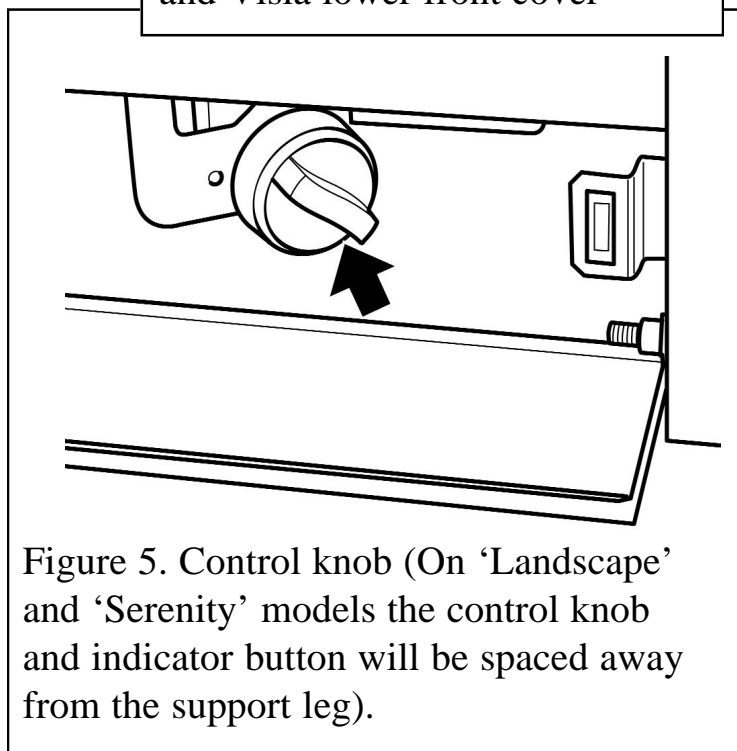

Figure 5. Control knob (On ‘Landscape’ and ‘Serenity’ models the control knob and indicator button will be spaced away from the support leg).
- Depress the control knob and turn anticlockwise towards the PILOT/IGN position (See figure 5). A spark should be generated at the pilot while turning. The spark should ignite the pilot. The pilot flame can be seen at the left side of the fuel effect.